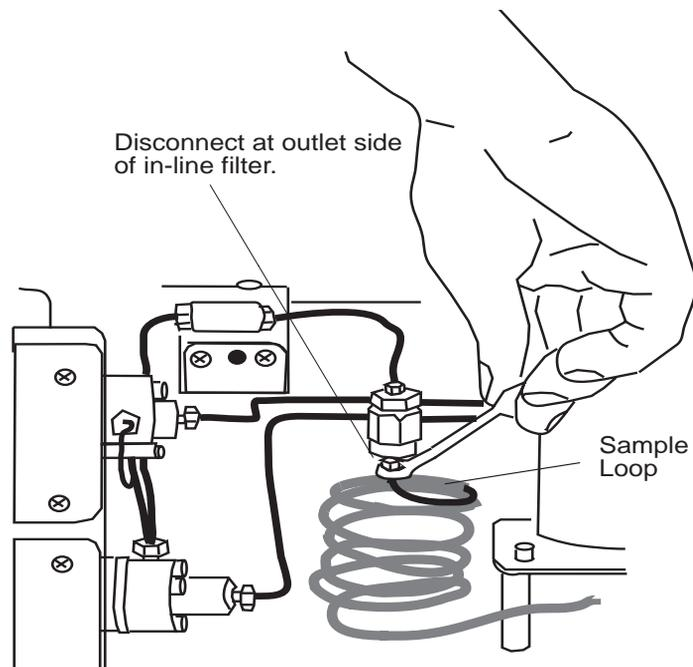

Figure 2-15 Disconnecting the Sample Loop
3. Disconnect the sample loop at the filter using the 5/16-inch wrench (Figure 2-15).